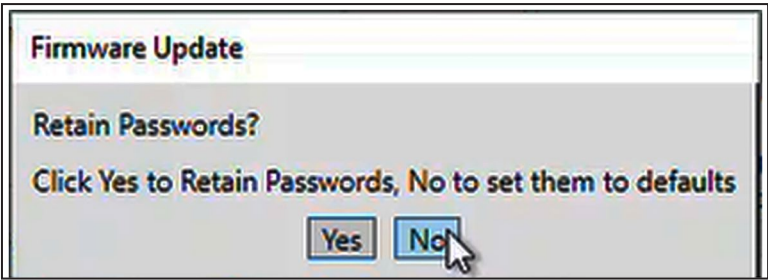

Figure 22. The Firmware Update dialog box requesting password retention.
STEP 11. When upgrading the firmware from version 7.3.x to 7.5.x and the Firmware Update dialog box prompts to retain passwords, click on one of the options to proceed. See Figure 22.